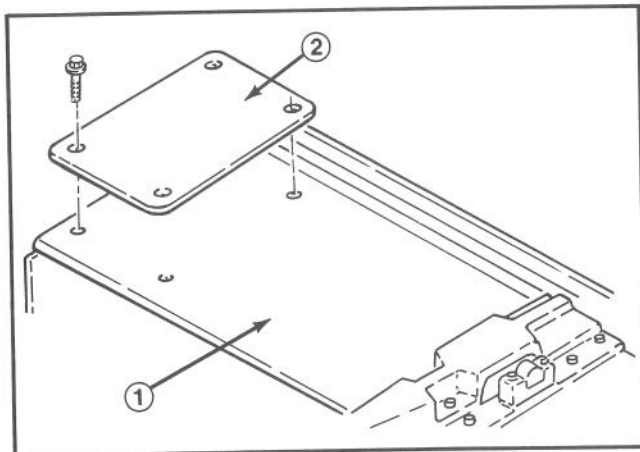
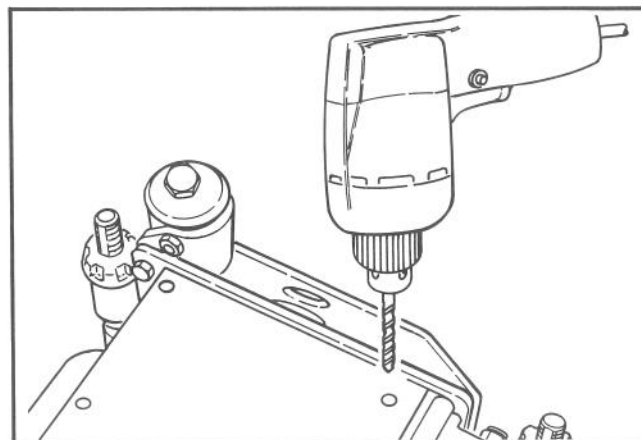

Figure 3
Figure 5
- C. On the #2 and #3 cutting units remove 4 self tapping cover capscrews located at the opposite end of the cutting unit drive housing (Fig. 3). Discard cover screws. Drill four 9/32" holes completely through cutting unit tubes using the self tapping screw holes as a pilot (Fig. 5).
- D. Install tipper plate to the front L.H. or #2 cutting unit and the front R.H. or #3 cutting units using capscrews and locknuts that come with the tipper plates (Fig. 3). Discard the original cover screws that came on the cutting unit.
- F. On the #4 and #5 cutting units remove 4 self tapping cover capscrews located at the opposite end of the cutting unit drive housing (Fig. 3). Discard cover screws. Drill four 9/32" holes completely through cutting unit tubes using the self tapping screw holes as a pilot (Fig. 5). Holes will be used later to mount #4 and #5 tipper brackets.